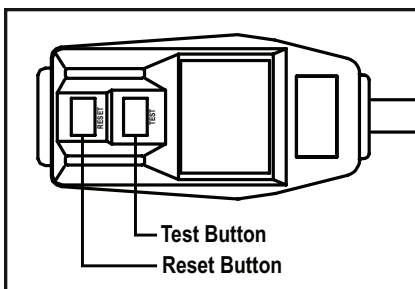

Figure 7
2. Press RESET (See Figure 7).